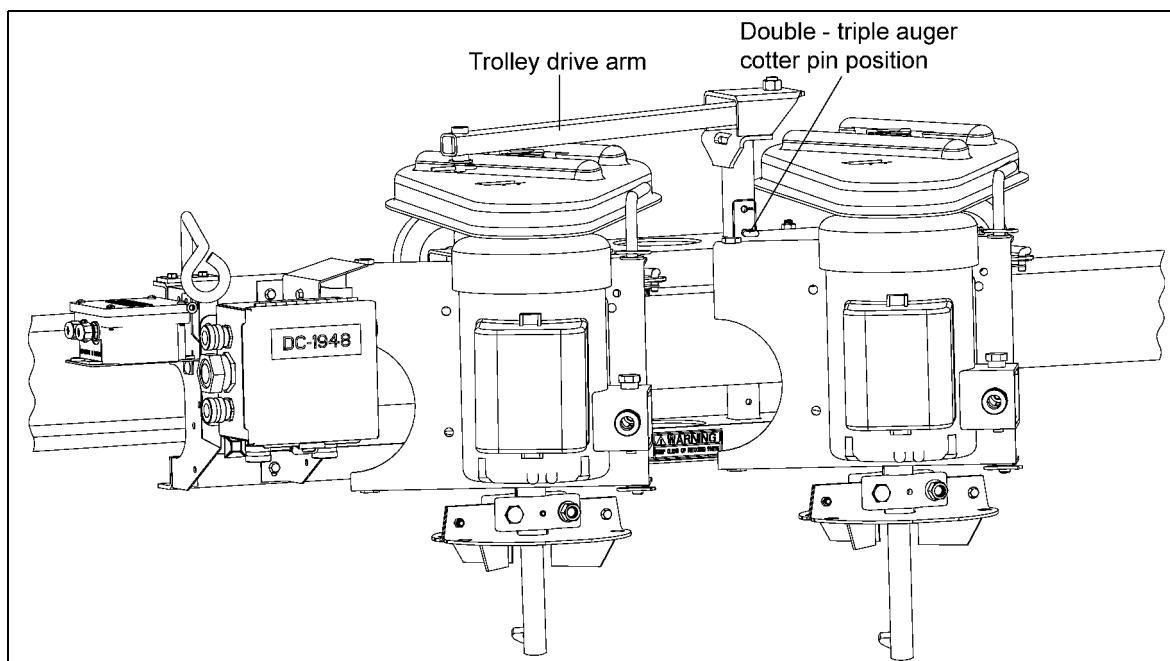
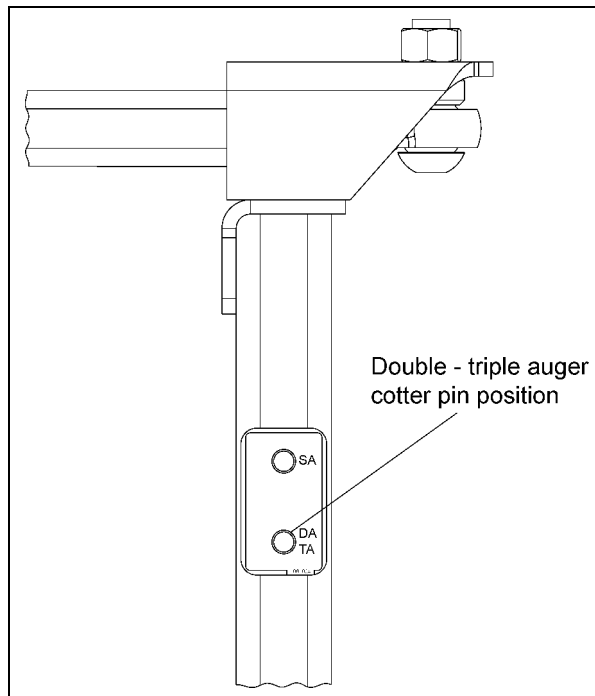

Figure 4Q Double and Triple Auger Position
Figure 4R Double and Triple Auger Position
3. Place trolley drive arm through the square hole in the trolley body pointing toward the center of the bin (the sticker should face the down auger motor) and secure with two (2) 1/4" x 1-3/4" cotter pins, one above the trolley body and one below. Open bottom of the cotter pins to secure. (See Figure 4Q below and Figure 4R on Page 24.)
NOTE: Two (2) hole locations are provided. The upper hole is used on single auger units only, as indicated on the decal. For double and triple auger units, use the lower hole. (See Figure 4R.)